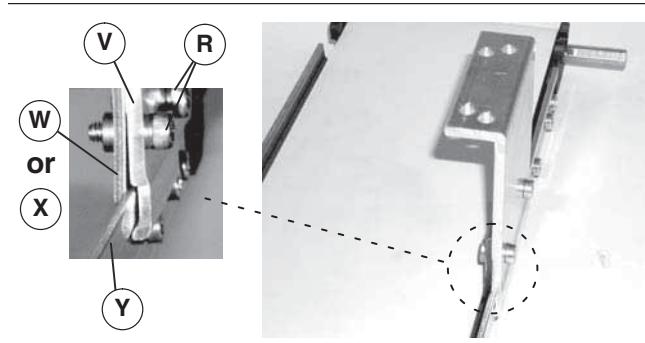

Figure 9
3. Attach stand mounting bracket (Figure 9, item V) to bottom of conveyor (Y). Snug-up screws (R).